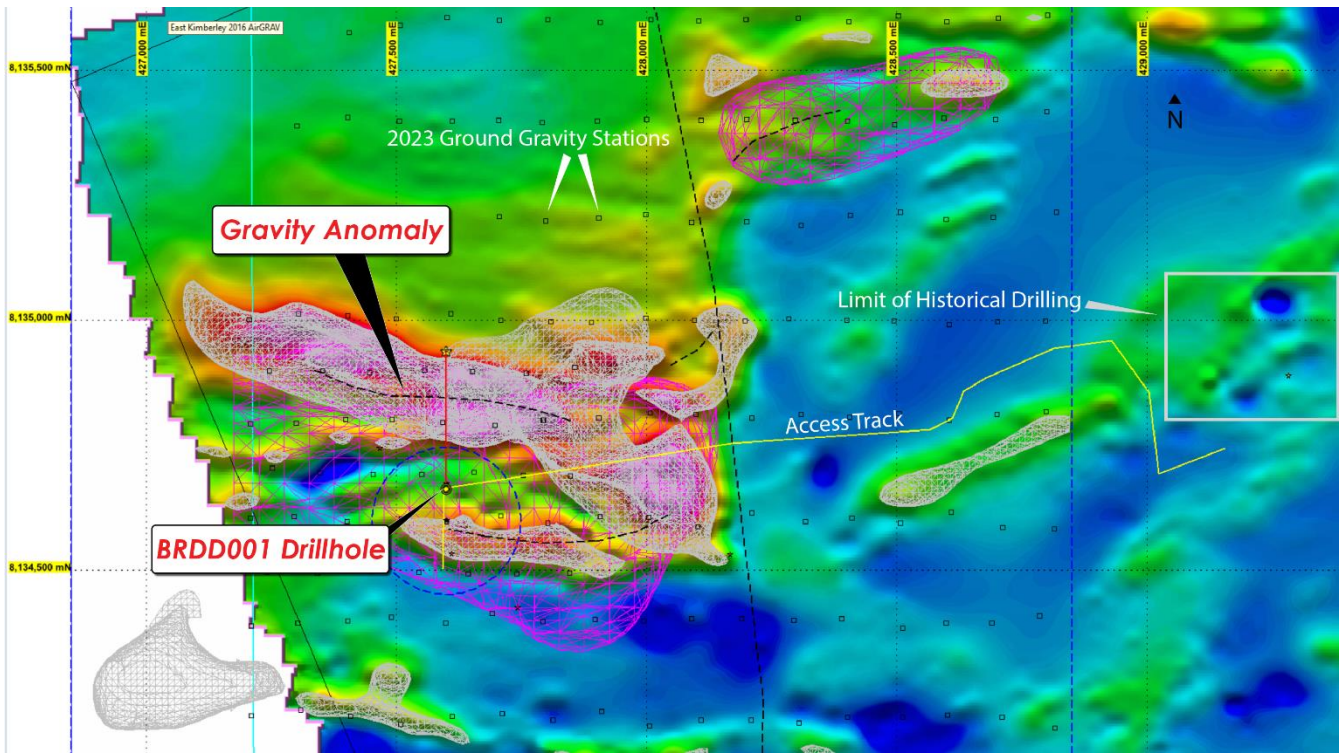

Figure 1. Drillhole BRDD001 (Azimuth 0 degrees) planned to intersect the gravity anomaly, between upper contact at 350m and 750m basal contact.
- **High priority gravity anomaly defined ahead of drilling at the Bow River Nickel Copper Project in Western Australia, Figure 1**
Lycaon Resources Ltd (ASX:LYN) (**Lycaon** or the **Company**) is pleased to announce that it has completed the review of the recent ground gravity survey at the Bow River nickel copper prospect (**Bow River**) in the East Kimberley region of Western Australia. The ground gravity survey has outlined a large high-density anomaly approximately 1.2km west and down dip of nickel and copper mineralisation that has been intersected in historical drilling, Figure 1, 2. In addition, heritage and flora surveys have been completed to allow for drilling to commence in late June.
The Project area covers two known nickel-copper-cobalt sulphide prospects mapped as the Salt Lick Creek intrusion and the Bow River intrusion. Both intrusives are sulphide-bearing and similar in style and setting to Panoramic Resources' Savannah mine, located approximately 60 kilometres further south. The relatively recent discovery (2014) of the Savannah North resource at depth adjoining the existing mine effectively quadrupled the Ni-Cu-Co resource, highlighting the prospectivity of E80/4955 given its analogous geological setting. Previous drilling is limited to a very small area of the Bow River mafic intrusive, Figure 1, 3.